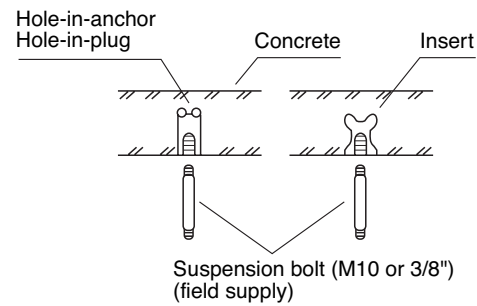

Fig. 3-93
- Insert suspension bolts as shown in Fig. 3-93 or
- (2) Screw in the suspension bolts allowing them to protrude from the ceiling as shown in Fig. 3-93. (Cut the ceiling material, if necessary.)